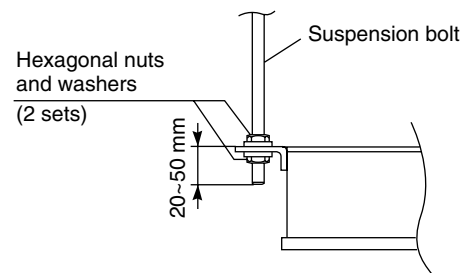

Fig. 3-171
- (3) Suspend and fix the indoor unit using the 2 hexagonal nuts (field supply) and special washers (supplied with the unit) as shown in Fig. 3-171.